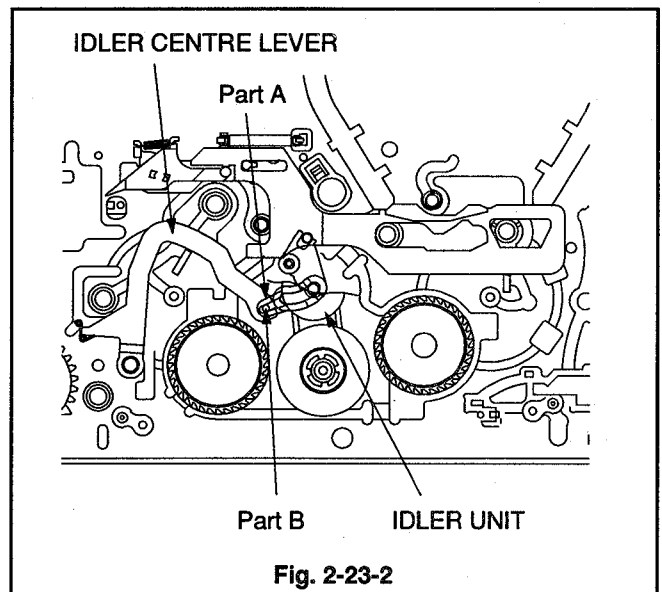

Fig. 2-23-2
- 1 Insert the part A of the IDLER CENTRE LEVER shown in Fig. 2-23-2 into the part B of the IDLER UNIT to install the IDLER CENTRE LEVER.